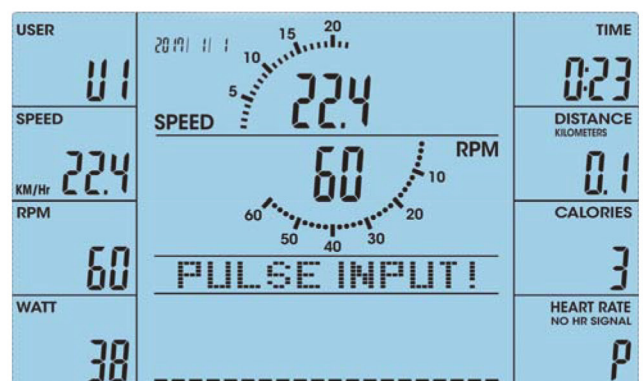

Fig. 43
5. To skip the target entering and immediately start with the training, press START/STOP (fig. 43).
When there is no pulse for six seconds, the LCD screen displays PULSE INPUT as reminder until a pulse is set (fig. 43).